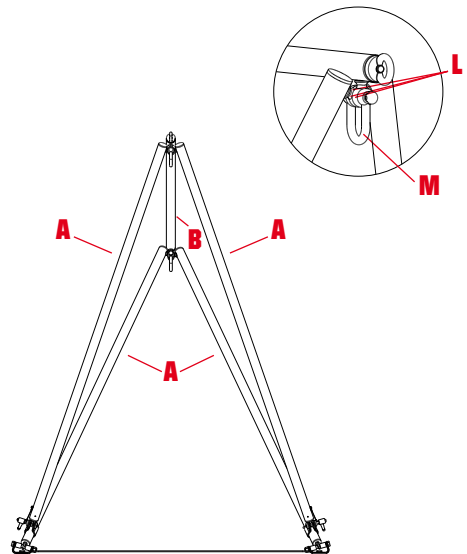

fig. 3
- b) Connect the upper bar (B) to the side bars (A) by inserting the shackles (M) through the eyelets (L) - (fig. 3).